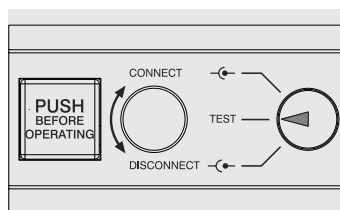

Figure 102
- circuit-breaker in test position (see Figure 102)